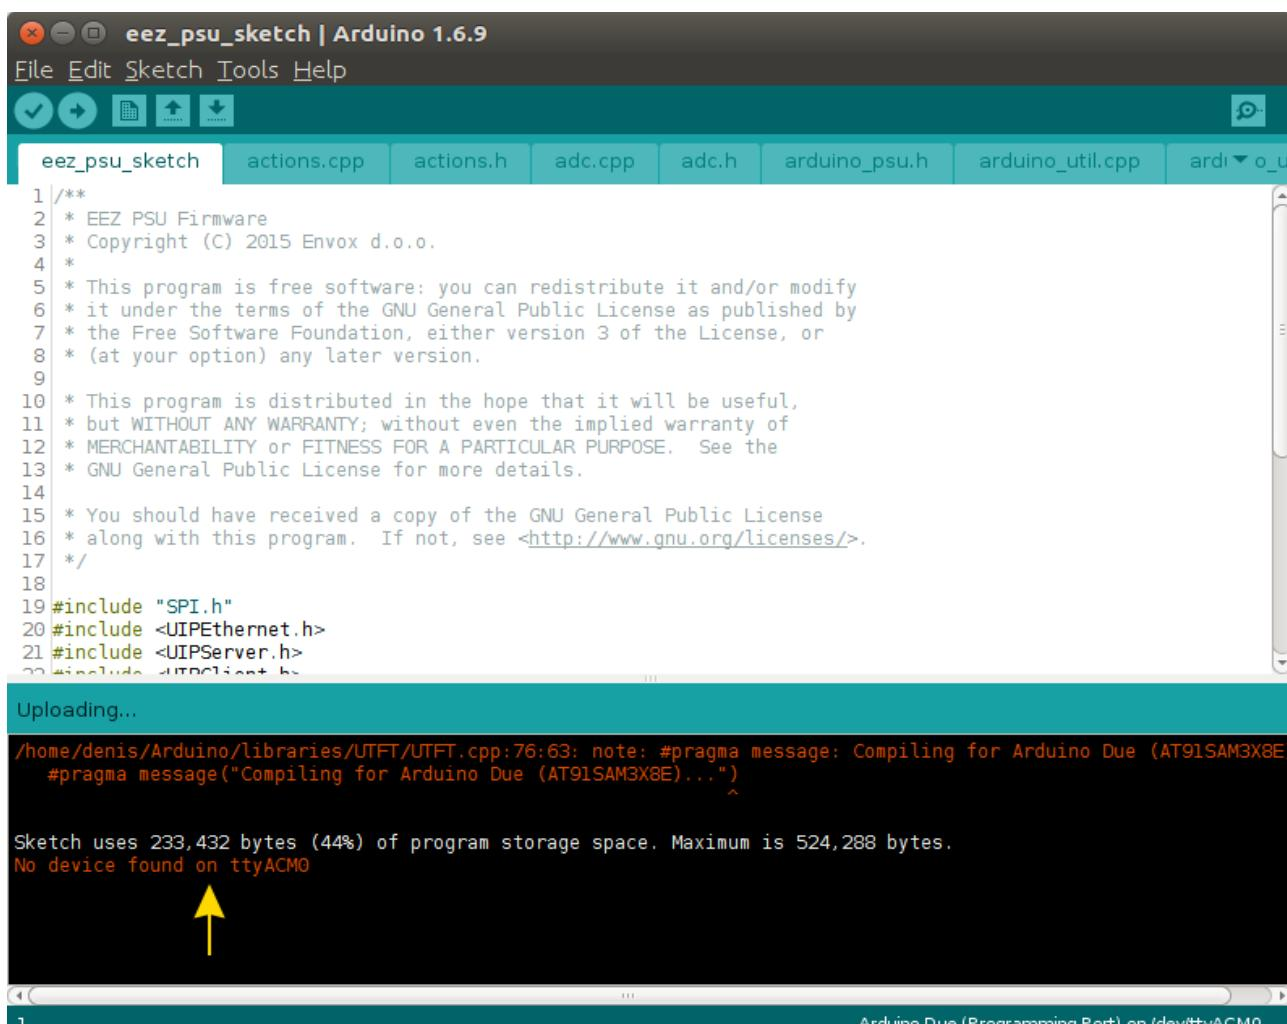

Fig. 33: Arduino sketch (firmware) upload error
- When the upload process will ends up with an error as shown on Fig. 33 press the RESET button on Arduino Shield board or Arduino Due (issue #14 is fixed in r5B11)